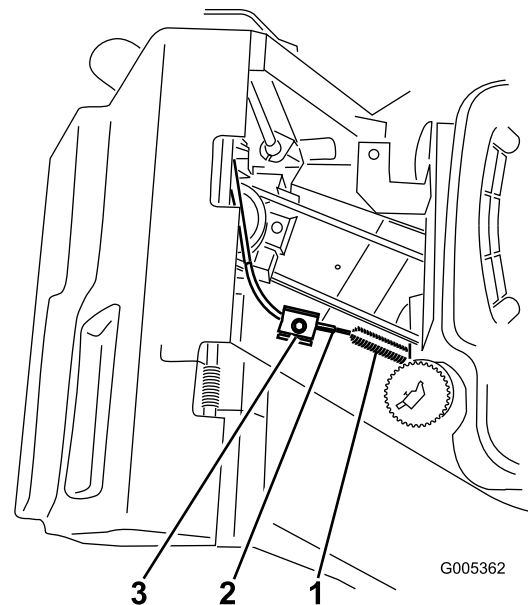

Figure 32
5. Loosen the cable clamp screw until the brake cable conduit slides (Figure 32).
Note: The lower belt cover has been removed in Figure 32 for the purpose for clarity. It is not necessary to remove the lower belt cover to perform this procedure.